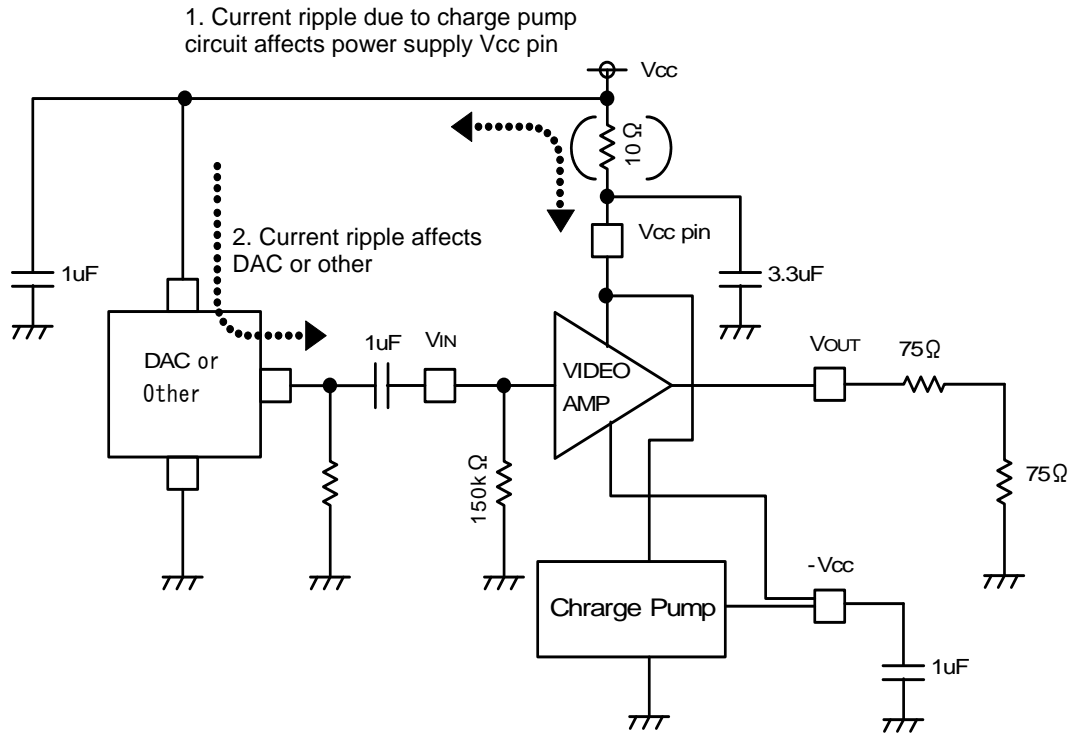

Fig.12 Effects of Charge Pump Circuit Current Ripple on External Circuit
8. A large current transition occurs in the power supply pin when the charge pump circuit is switched. If this affects other ICs (via the power supply line), insert a resistor (approximately 10  $\Omega$ ) in the VCC line to improve the power supply's ripple effects. Although inserting a 10  $\Omega$  resistor lowers the voltage by about 0.2 V, this IC has a wide margin for low-voltage operation, so dynamic range problems or other problems should not occur. (See Figures 12 to 14.)